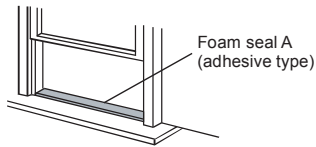

Fig. 8
1. Cut the foam seal (adhesive type) to the proper length and attach it to the windowsill. See Fig.8